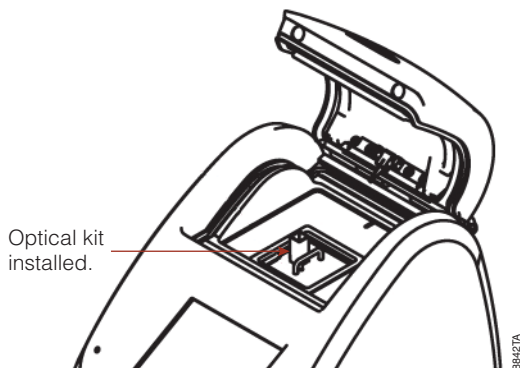

Figure 4. Optical Kit installed.
3. Press down firmly to lock the Optical Kit in place (see Figure 4).